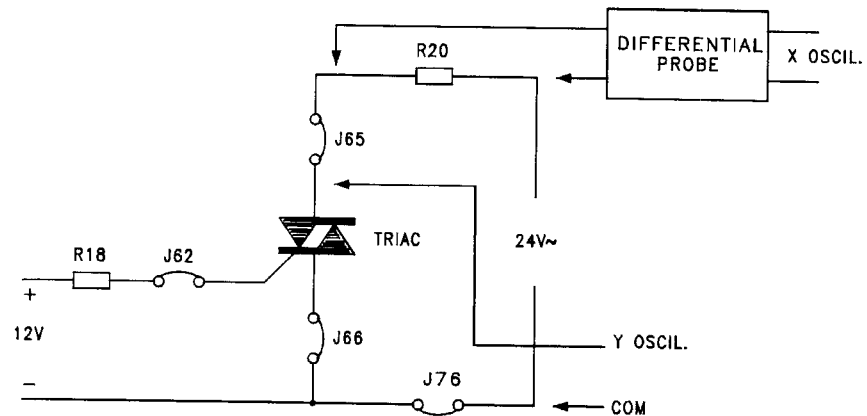

fig.B12.15
- Produce the circuit of fig.B12.15 connecting jumpers J66, J65, J76 and connect the oscilloscope as indicated